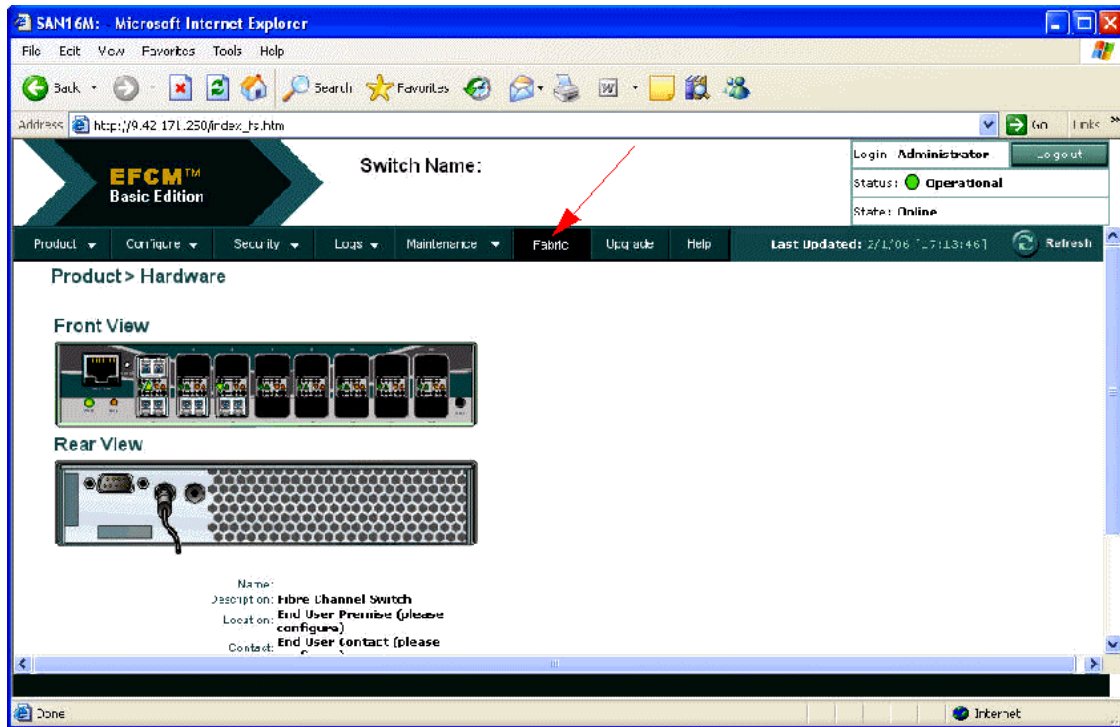

Figure 6-16 Fabric window
10. From the action menu, select **Fabric** → **Fabric View** (Figure 6-16).